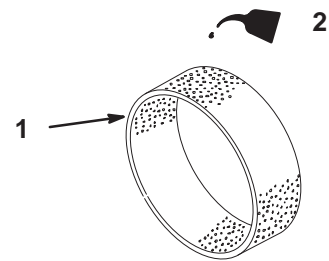

Figure 27
4. Put one or two ounces of oil on the element (Fig. 27).